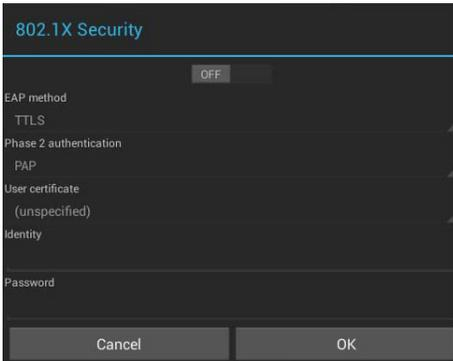

**FIG. 60** Ethernet page (IPv6 tab)
6. When complete, press **OK** to save changes and return to the *Ethernet* page - IPv6 tab (FIG. 60):